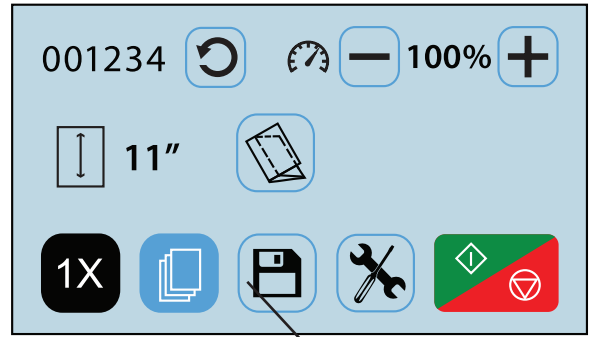

Fig. 22 Saved Job Icon
1. To recall, edit, or delete a saved custom fold from the home screen press the saved job icon  (Fig. 22).